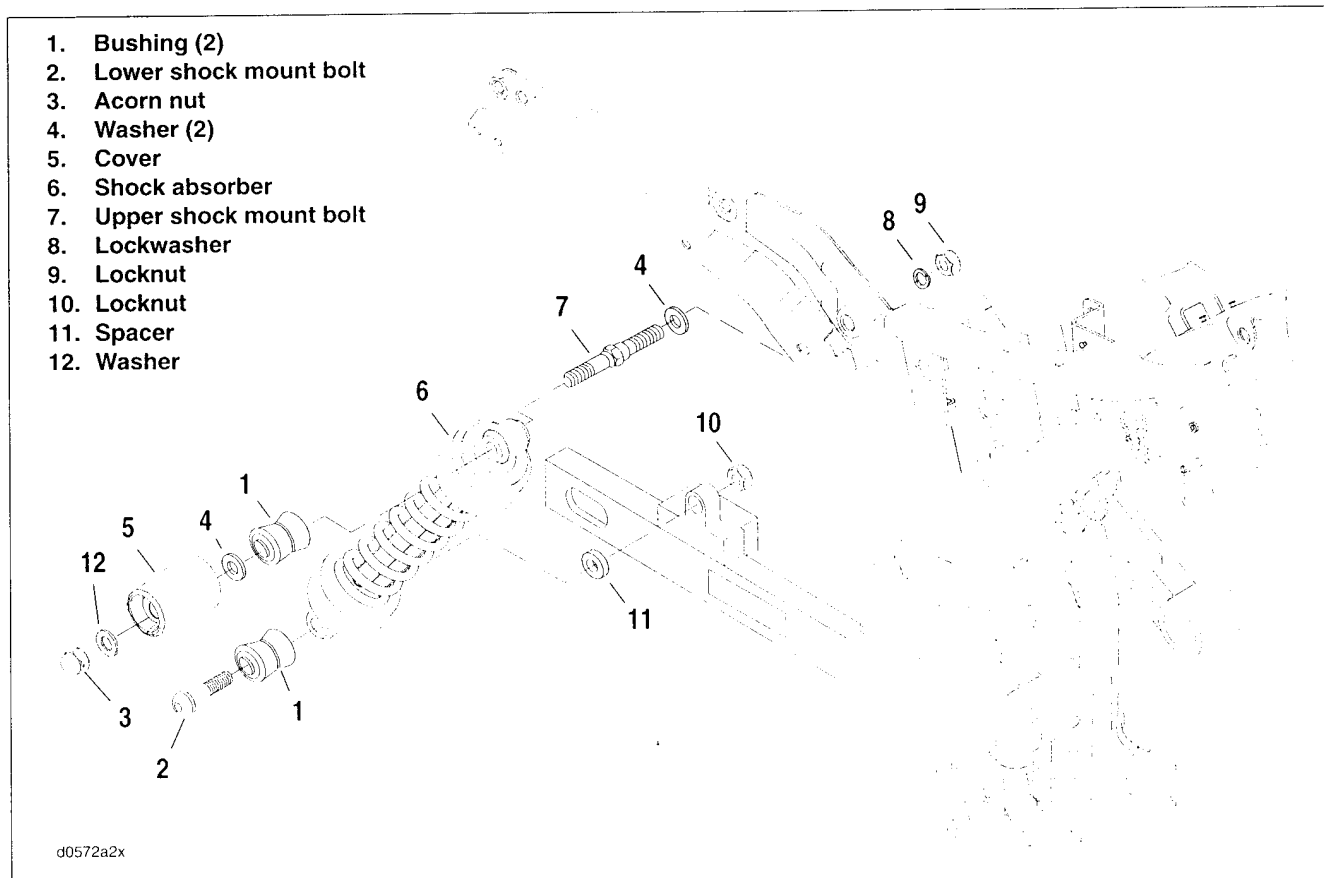

Figure 2-105. Rear Shock Absorber: FXD, FXDL FXDWG
1. See Figure 2-105. Remove bottom shock mount from rear fork. Remove locknut (10), bolt (2), and spacer (11).
2. Remove upper shock mount from shock mount bolt (7).
- a. Remove acorn nut (3), and outside washer (12).
- b. Remove cover (5), inside washer (4) and shock (6).
2. See Figure 2-105. Attach bottom shock mount to rear fork.
- a. Apply two to three drops of LOCTITE THREAD-LOCKER 243 (blue) to threads of bottom bolt (2).
- b. Install bolt (2), spacer (11), and locknut (10).
3. Attach upper shock mount shock mount bolt (7).
- a. Apply two to three drops of LOCTITE THREAD-LOCKER 243 (blue) to threads of shock mount bolt (7).
- b. Install shock (6), inside washer (4), cover (5) and outside washer (12).
- c. Hand tighten acorn nut (3).
*If upper shock stud nut (9) is removed, tighten to 60-80 ft-lbs (81.3-108.5 Nm).*